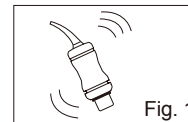

Fig. 1
- a) Before activation, shake the capsule or tap its side on a hard surface to loosen the powder (Fig. 1).